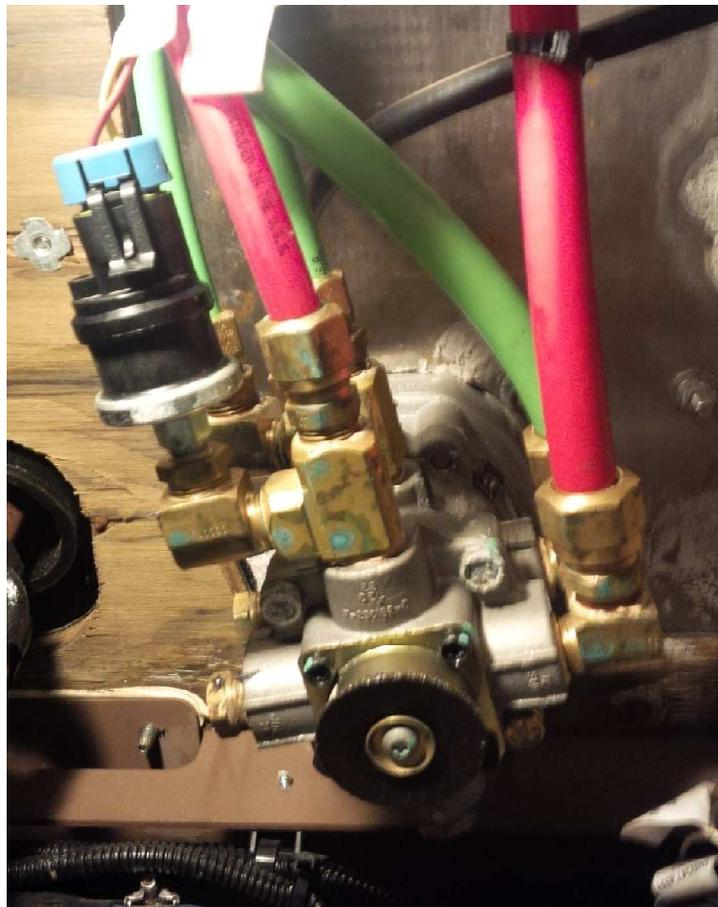

Figure 1: Brake Treadle Valve Assembly
4. Locate the brake treadle valve assembly, see Figure 1.
6. Disconnect all airlines from E6 and BVA valve, see Figure 1.
7. Disconnect the electrical connector from the pressure switch, see Figure 1.